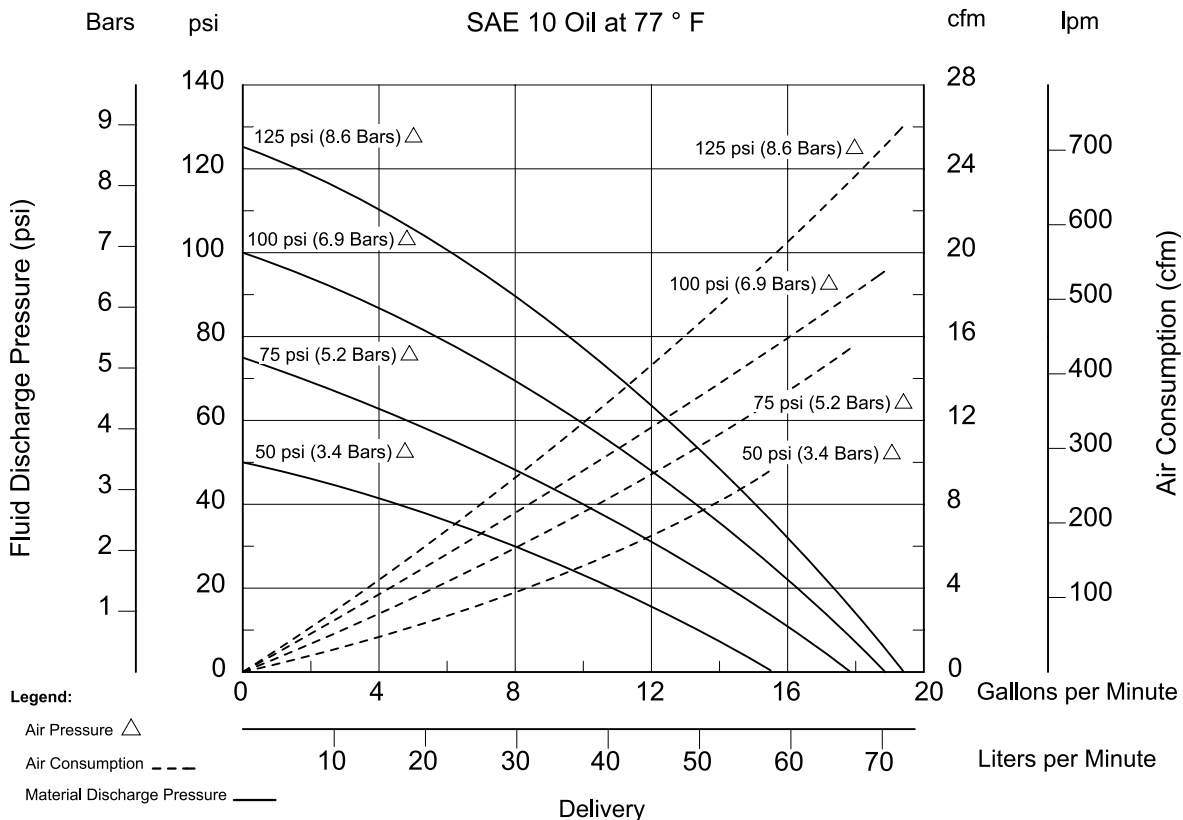

Figure 3 Delivery versus Discharge Pressure and Air Consumption
* For detailed information, refer to **Figure 3**